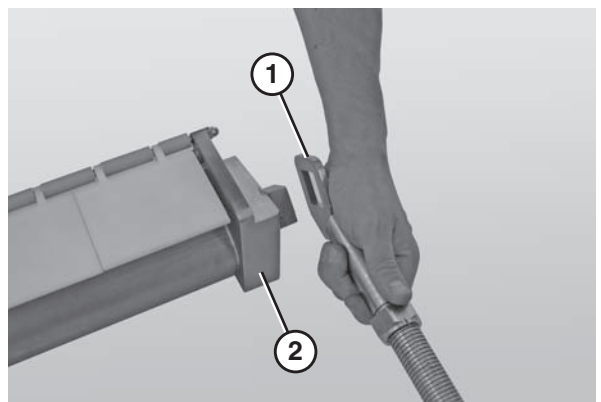

Figure 75
3. Slide the nose bar shafts (**Figure 75, item 1**) off of the nose bar weldment (**Figure 75, item 2**).